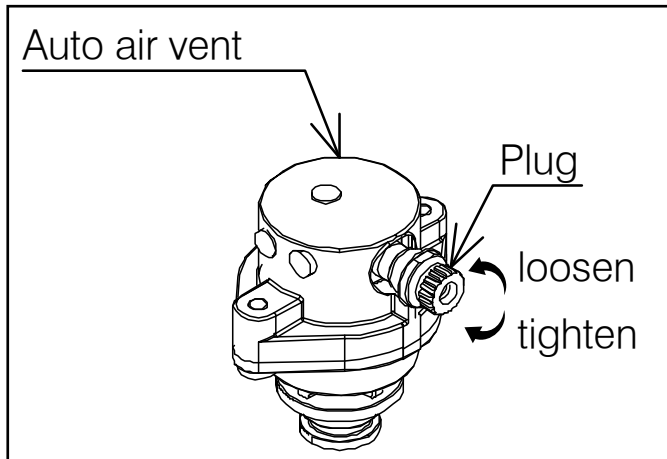

Figure 10-3: Auto Air Vent
3. Remove the front casing and loosen the plug on the automatic air vent located inside the heat pump. Refer to Figure 10-3.